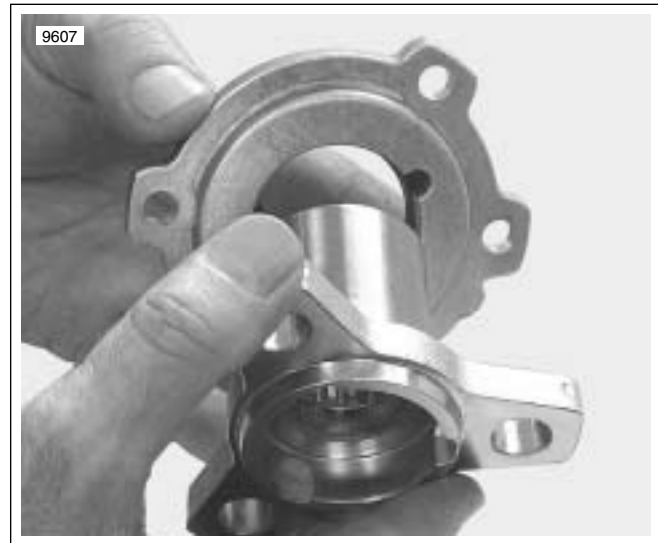

Figure 7-11. Seal Retainer and Output Flange
7. See Figure 7-11. Slide seal retainer on the output flange.